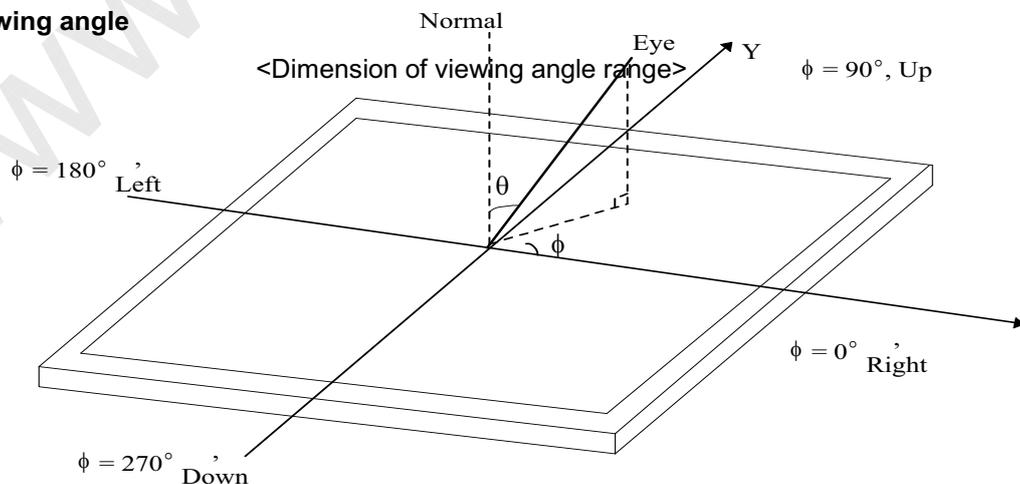

**FIG. 3 Response Time**
2. Response time is the time required for the display to transition from white to black (rise time,  $T_{R}$ ) and from black to white(Decay Time,  $T_{D}$ ). For additional information see FIG 3.